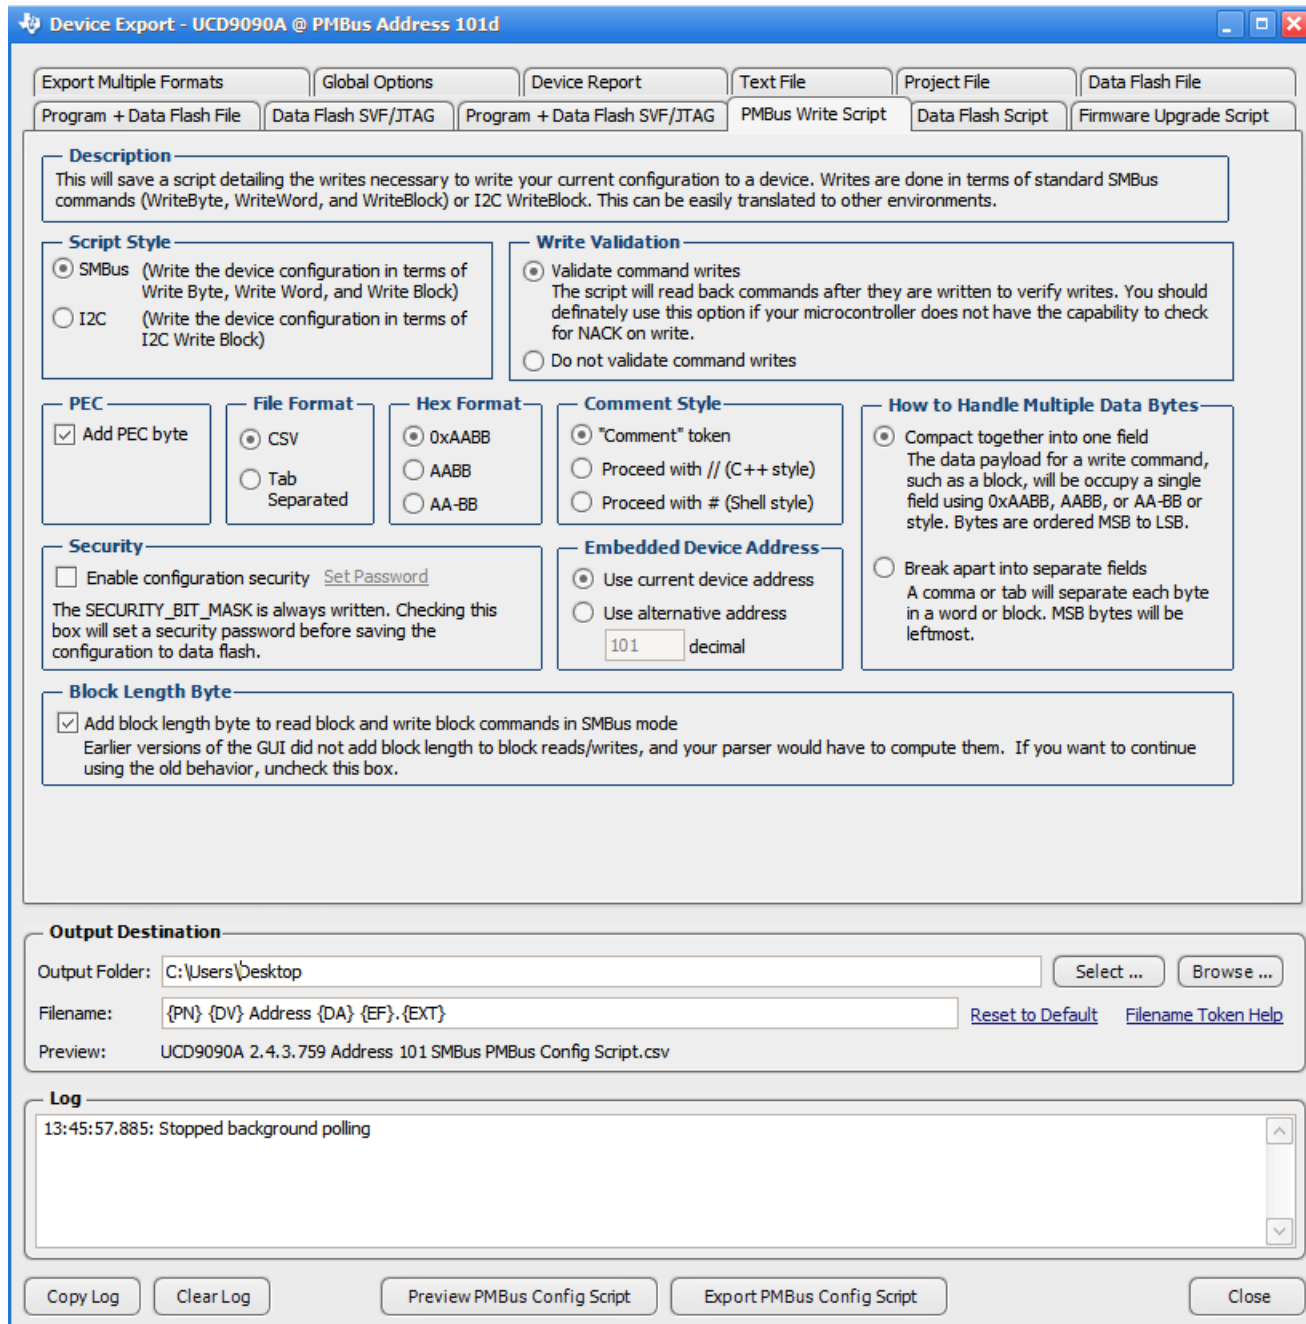

Figure 33. Fusion GUI PMBus Configuration Script Export Tool
2. The *Fusion GUI* (Figure 33) can create a PMBus or I²C command script file that can be used by the I²C master to configure the device. This method may cause unexpected behaviors on GPIO pins which can disable rails that provide power to device. It is not recommended for production programming.